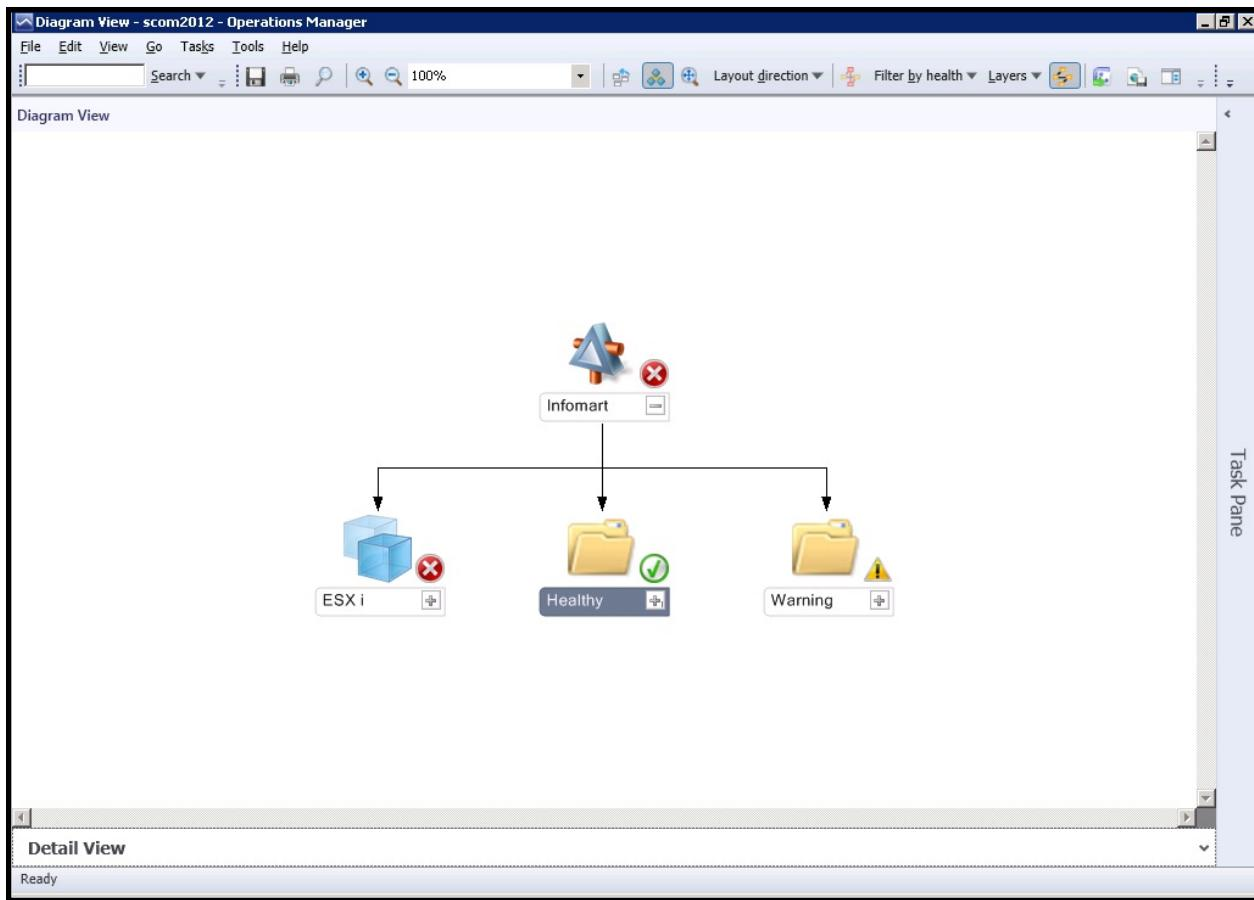
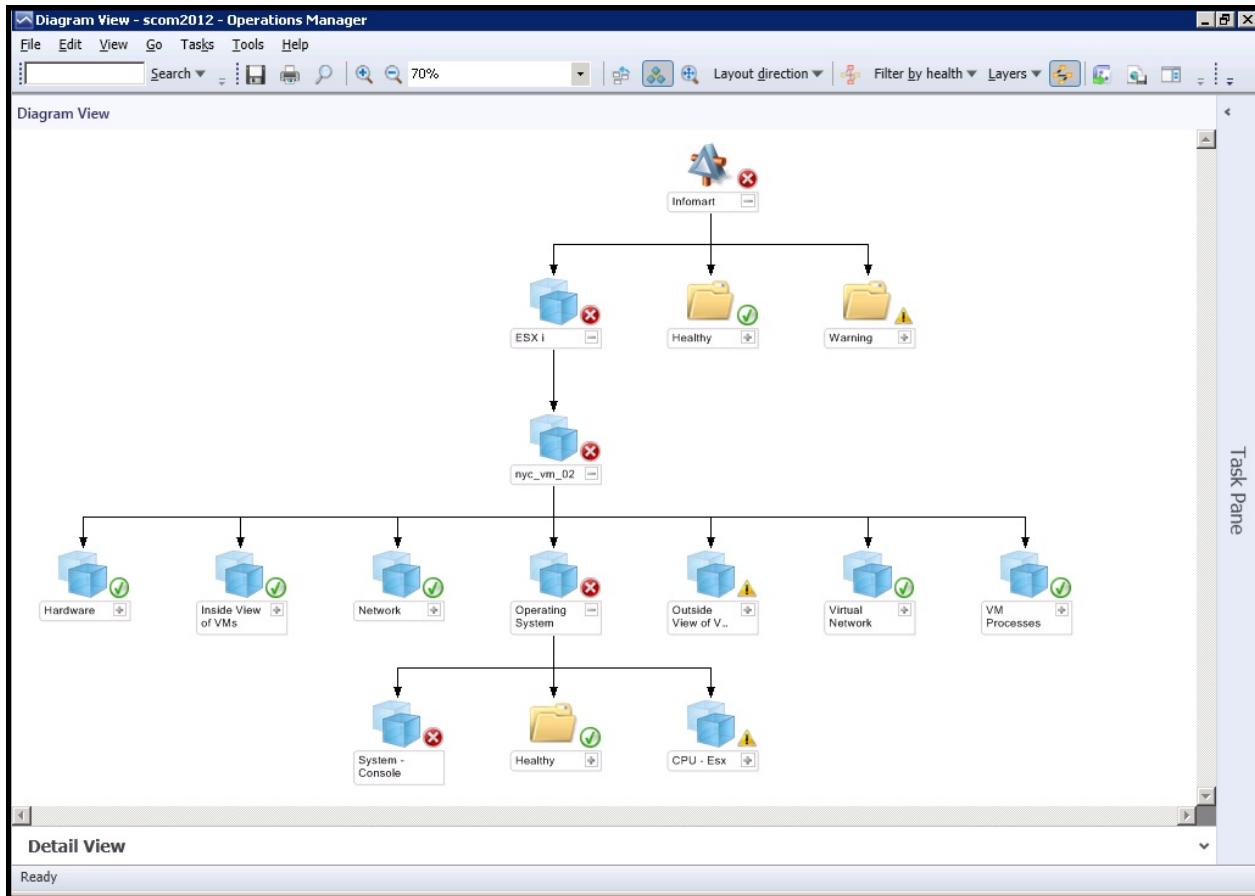

Figure 4.40: The abridged distributed application topology indicating the component in the Critical state
Figure 4.41: Drilling down from the ESXi component to know which eG test reported the Critical problem
15. Figure 4.40 will then appear, displaying an “abridged” topology of the *Infomart* application; this topology indicates that while a single component is in the **Critical** state, some components are in the **Healthy** state and some others in the **Warning** state. From Figure 4.40, we can easily infer that the **ESXi** component is in the **Critical** state and is hence responsible for the dip in the performance of the *Infomart* application. Could this **Critical** issue have caused some components to be in the **Warning** state? Only detailed investigation can confirm that. To begin with however, let us focus on the **Critical** issue with the **ESXi** component.
16. From the topology map of Figure 4.40, you can drill down further to discover where in the **ESXi** component's architecture the **Critical** issue occurred and which eG test caused it. To drill down, click on the **+** button adjacent to **ESXi** in Figure 4.40. This will reveal the name of the problematic **ESXi** component, which is *nyc_vm_02* in the case of our example (see Figure 4.41). Clicking on the **+** button next to *nyc_vm_02* will lead you to the layer in which the problem occurred – this is the **Operating System** layer in our example. By drilling one level down, will you can determine the exact test that reported the problem – this is the **System – Console** test in the case of our example. It is now apparent that the **Critical** anomaly occurred in the service **console** of the *nyc_vm_02* component. From Figure 4.41, it is also clear that the **Critical** problem with the **System-Console** test has rippled and affected the performance of the **CPU-Esx** test, forcing SCOM to signal the problem with that test as a **Warning**. To know the exact measures that captured these abnormalities, you have to use SCOM's Health Explorer. Refer to Section 3.6 of this document to know how to use the Health Explorer.